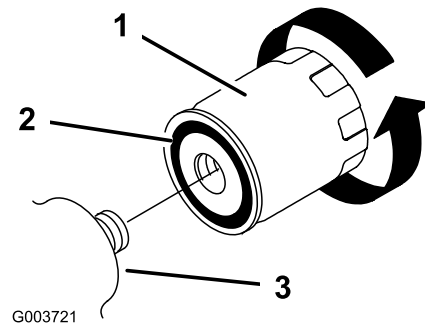

Figure 33
4. Remove the old filter (Figure 33) and wipe the surface of the filter adapter gasket clean.
5. Apply a thin coat hydraulic fluid to the rubber gasket on the replacement filter (Figure 33).
6. Install the replacement hydraulic filter onto the filter adapter (Figure 33). Tighten it clockwise until the rubber gasket contacts the filter adapter, then tighten the filter an additional 1/2 turn.